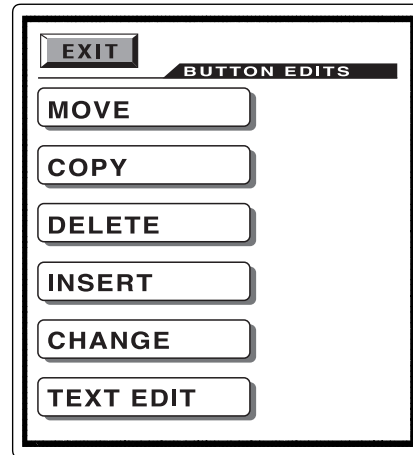

Figure 14
3. Push down the joystick to enter the EDITING mode. The Touch Screen will list the following six choices to choose from and select the button you wish to enter. Refer to figure 14.